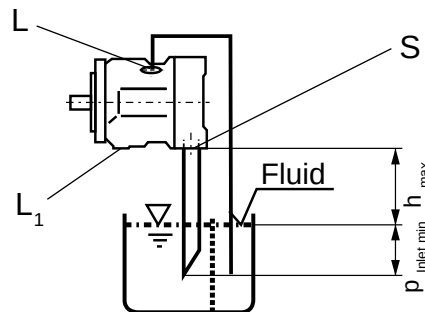

Fig. 4
b) If the minimum fluid level is equal to or below the top of the pump pipe ports "L", "L₁" and possibly "S" according to Fig. 4. Conditions according to 1.2.1.
a) For mounting above tank see Fig. 4.